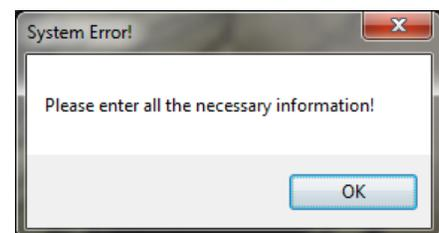

Fig2
- b. A message will pop up saying “Please enter all the necessary information” in (Fig2)